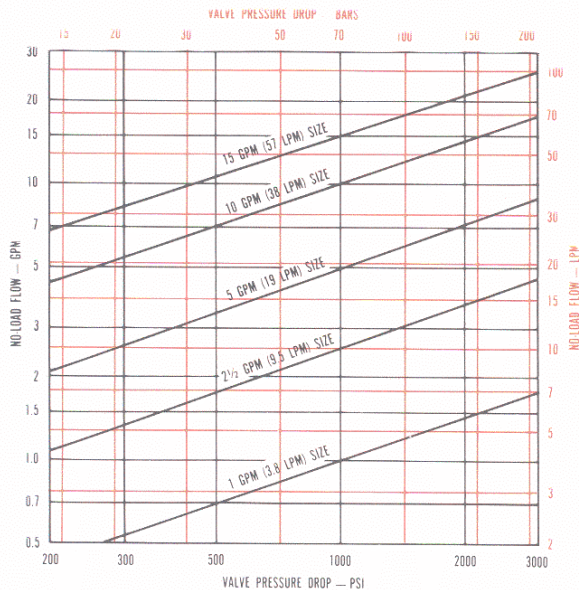

FIGURE 1 CHANGE IN RATED FLOW WITH PRESSURE
**RATED FLOW** Rated flow is defined at a valve pressure drop of 1000 psi (70 bars). The change in rated flow with valve pressure drop is shown in Figure 1.